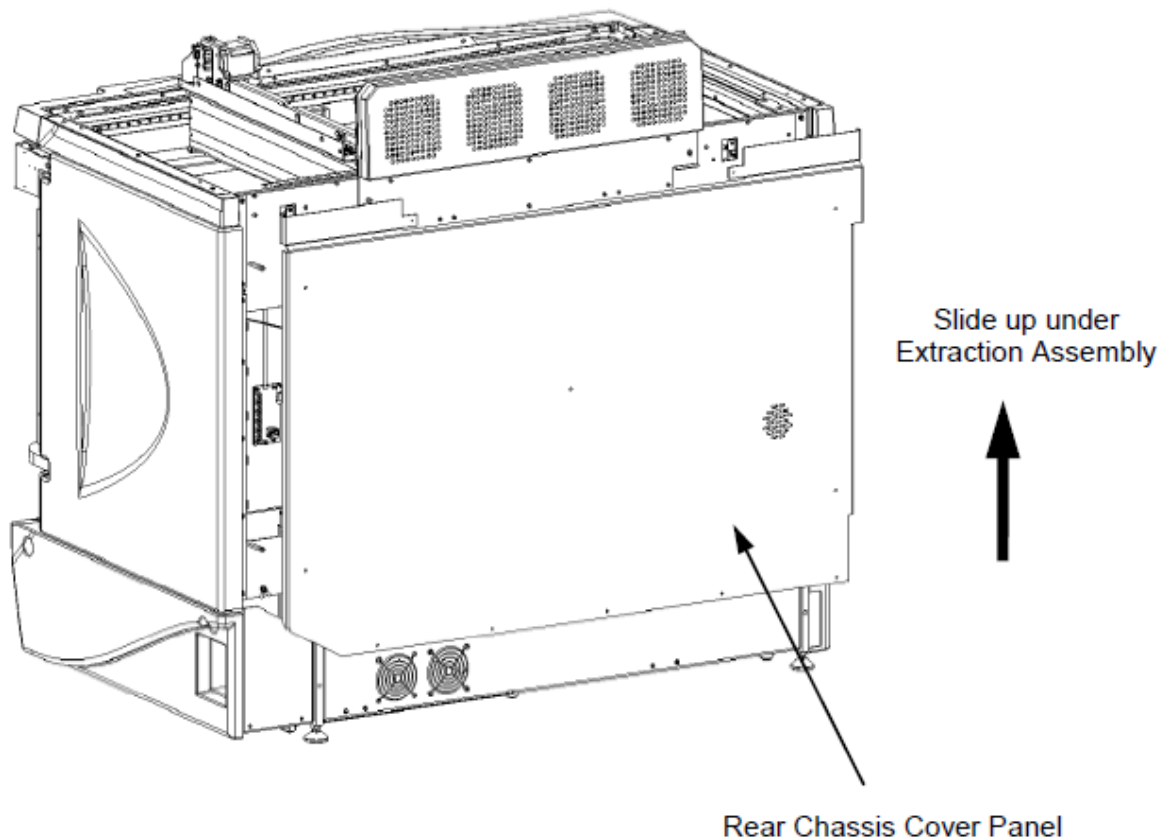

Figure B-1: Rear Chassis Panel
1. Remove the Rear Chassis Panel (Figure B-1)